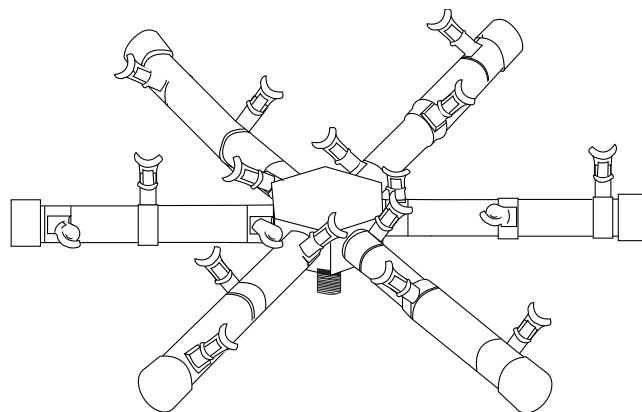

Fig. 5 Shows burner with nipple installed.
All Burning Spurs come ready to install and have a ½" female center nipple. The Burning spur must be installed as shown in Fig. 5 with center nipple facing downward. Ensure to seal each NPT fitting with thread tape or pipe compound.
Step 1: Install the nipple into the Pro Spur burner (Fig. 5).